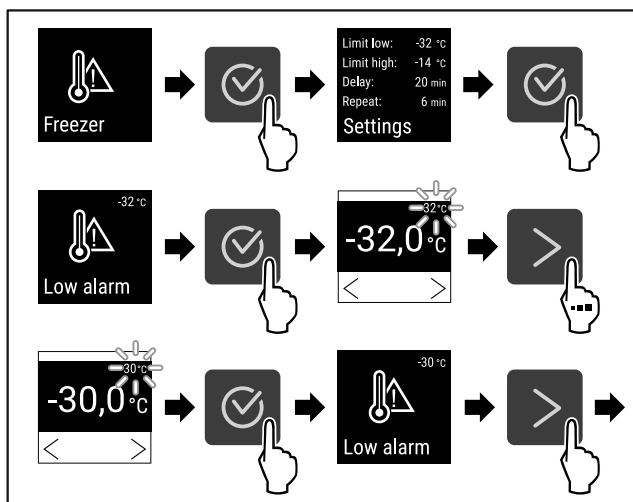

Fig. 131
- ▶ Complete steps (see Fig. 131).